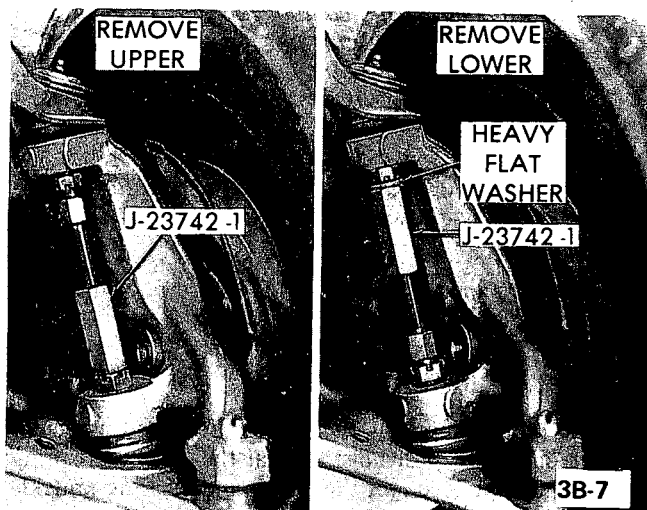

Figure 3B-6 Separating Steering Knuckle from Ball Joints
5. Install Tool J-23742-1 between ball stud and turn threaded end of tool until the ball stud is free of steering knuckle. See Figure 3B-6. Remove tool.